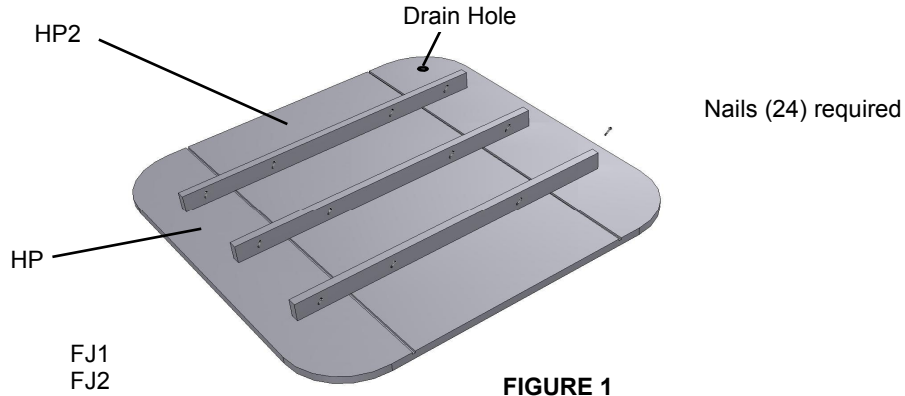

FIGURE 1
Place the required horizontal floor panels (HP) face down on a flat surface. If you are assembling this unit on a concrete floor, you should lay these panels on top of some cardboard or blankets to protect the wood from scratches. Lay the Floor Joists (FJ) on edge on top of the Horizontal Panels (HP). Evenly space the Floor Joists (FJ) and toenail them to the Horizontal Panels with 4 nails on each side of each Floor Joist (FJ). See Figure 1. Make sure to position the joist with the drain hole in the correct corner. Turn the floor assembly over.